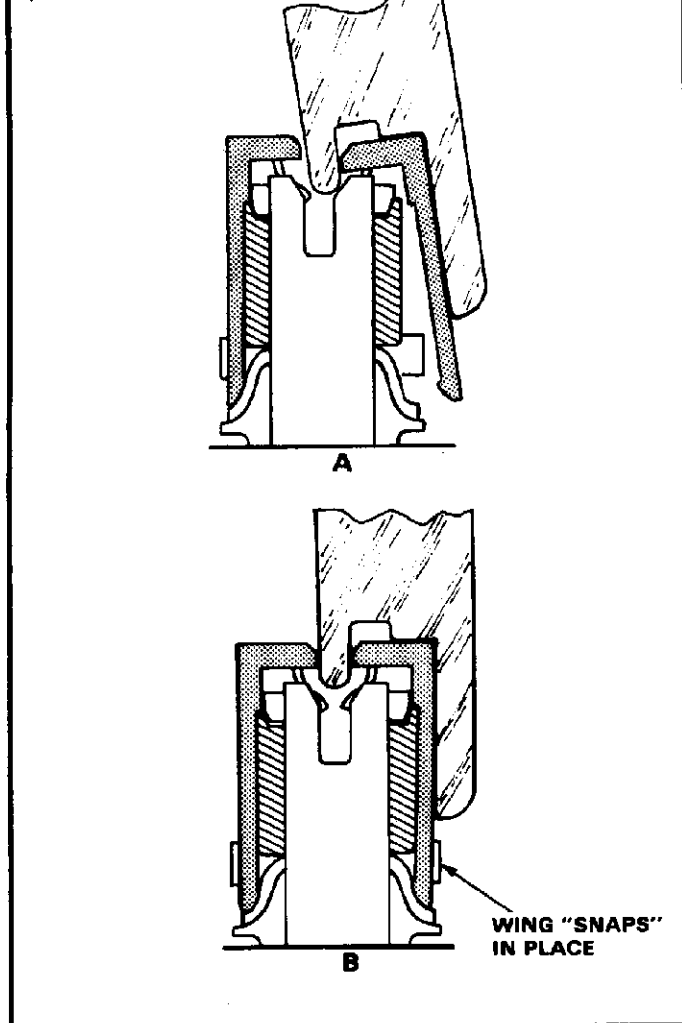
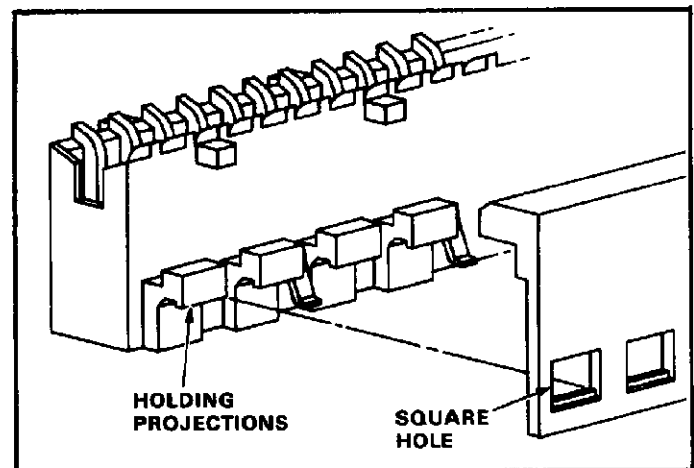

Fig. 4
Fig. 5
After completing the connector repair, the housing module wings can be replaced one at a time, as shown in Figure 4. It is important that the square holes in the wing align with the wing holding projections as shown in Figure 5. Proceed as follows:
2. Place tool on wing (Figure 4A), push down, and rotate tool as indicated in Figure 4A until openings in wing engage with wing holding projections and wing "snaps" into place on housing module (Figure 4B). The square holes in the wing must align with the wing holding projections as shown in Figure 5. Lift tool straight up to remove tool.